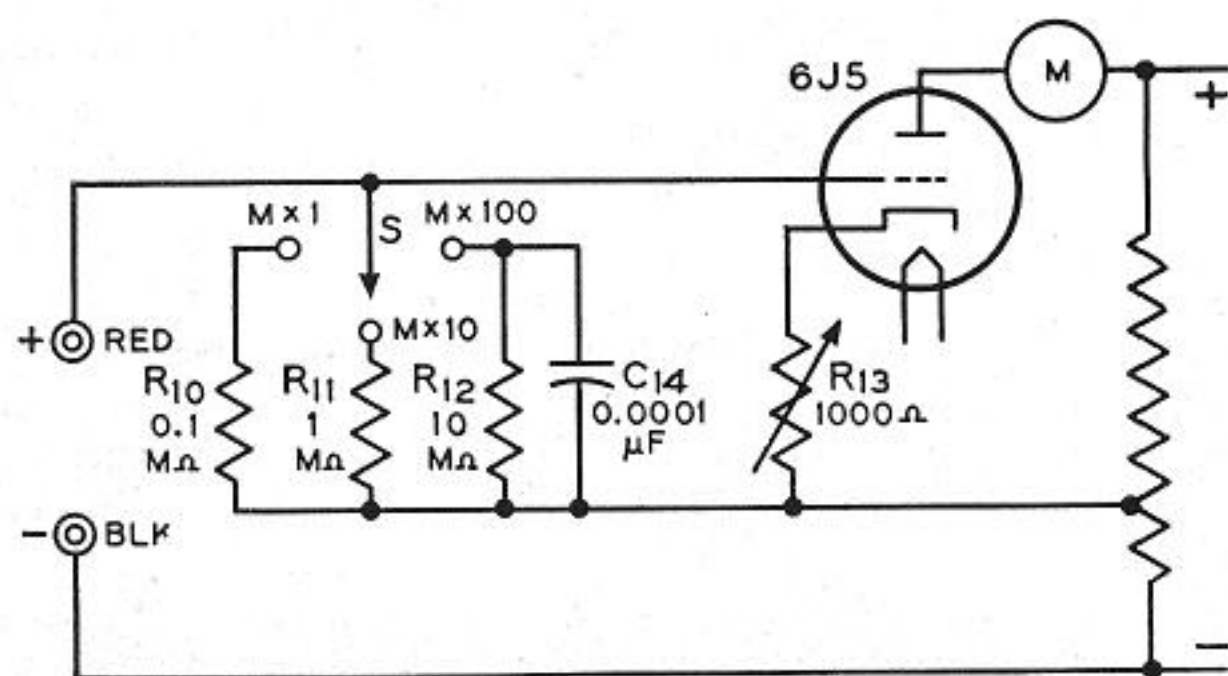

FIG. 7—FUNCTIONAL INSULATION-RESISTANCE TEST CIRCUIT
3.3.1 Theory of Operation. Insulation resistance measurements are made by the electronic test circuit of Figure 7. Leakage current through the capacitor or circuit element under test causes an increase in the negative bias on the triode grid and a consequent drop in plate current. The plate circuit milliammeter is calibrated directly in megohms.